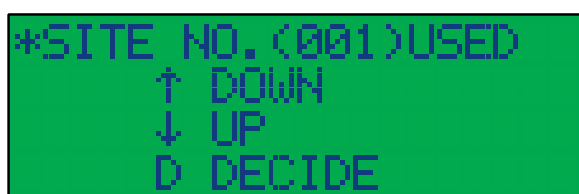
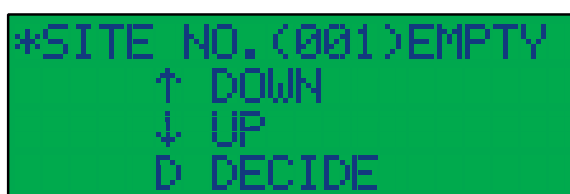

Fig.6-1 Example of Display for USED
Fig.6-2 Example of Display for EMPTY
- When the data was recorded in SITE, it will display as USED shown in Fig.6-1, while the data was not recorded in SITE, it will display as EMPTY shown in Fig.6-2.